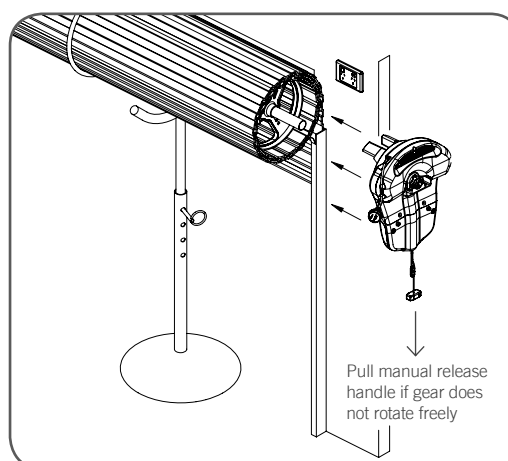

Fig.10
- Slide the opener over the door axle and into the drum of the door (**Fig. 10**).